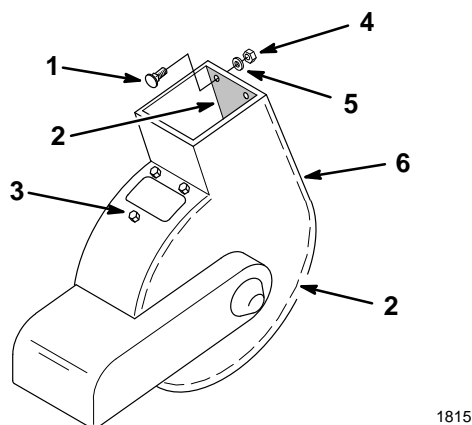

Figure 24
2. Remove the five (5) locknuts, washers and carriage bolts and pull the wear strip from the blower (Fig. 24).
3. Clean the inside of the blower thoroughly (Fig. 24).
4. Slide the new wear strip inside the blower and install the three (3) lower carriage bolts, washers and locknuts. Make sure you install the carriage bolts with the heads inside the blower (Fig. 24).
5. Push the wear strip tight against the inside of the blower and install the two (2) upper carriage bolts, washers and locknuts. Make sure you install the carriage bolts with the heads inside the blower (Fig. 24).
6. Check that the blower impeller clears the wear strip (Fig. 24).